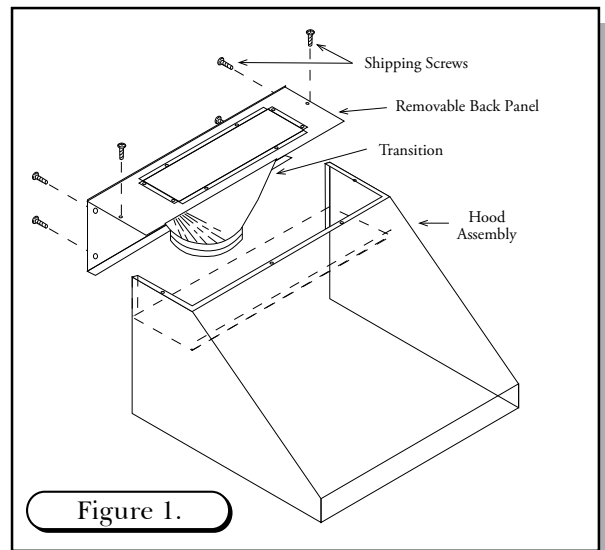
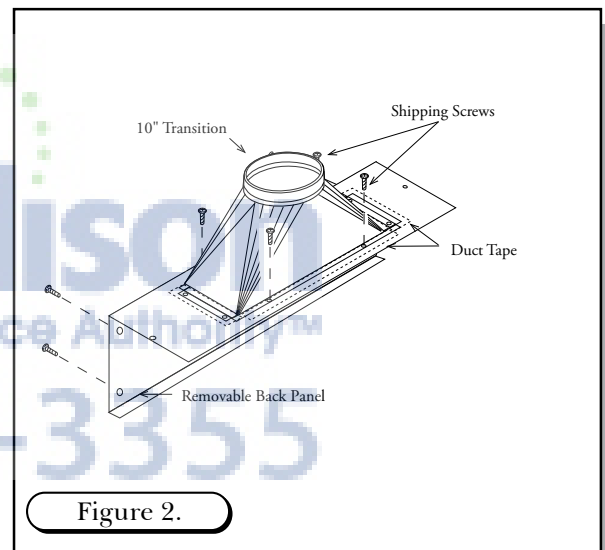

Figure 1.
Figure 2.
(See Figures 1 through 3)
2. To detach the removable back panel and transition from the hood, remove four (4) screws from the top and four (4) screws from the back of the unit. (See Figure 1)
3. Detach the transition from the removable back panel removing four (4) screws. These shipping screws are needed for re-attaching the transition to the removable back panel.
4. Secure the transition to the top of the removable back panel, using the four (4) screw provided. Use duct tape to seal the joints of the transition and the top of the removable back panel. (See Figure 2)
5. To detach the removable back panel/transition from the hood unit, remove four (4) screws from the top and four (4) screws from the back of the unit. (See Figure 1)